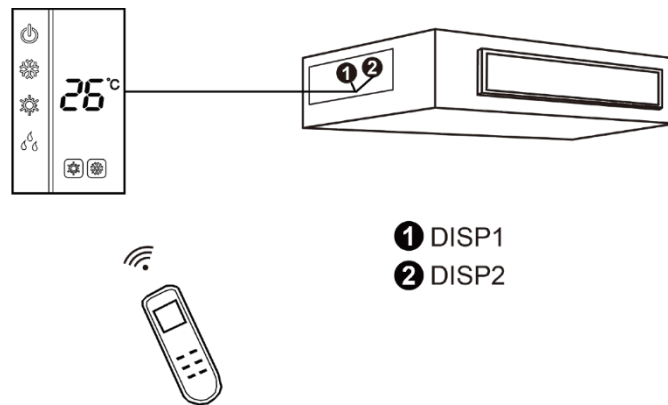

Fig. 5.4.2
- 2) Fig. 5.4.2 shows the installation of the remote control.